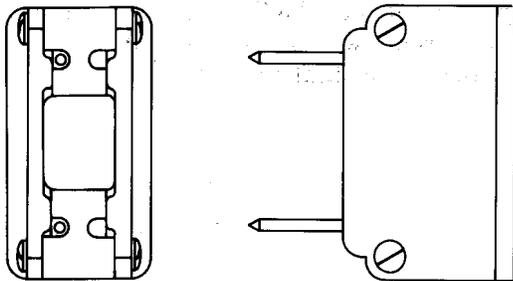

Fig. 13—419A Plug
2.13 419A: The 419A (Fig. 13) is a black, molded, plastic plug having two terminals. The 419A is used as a terminating plug for the KS-14418 head set in the E6 Voice Frequency Repeater.